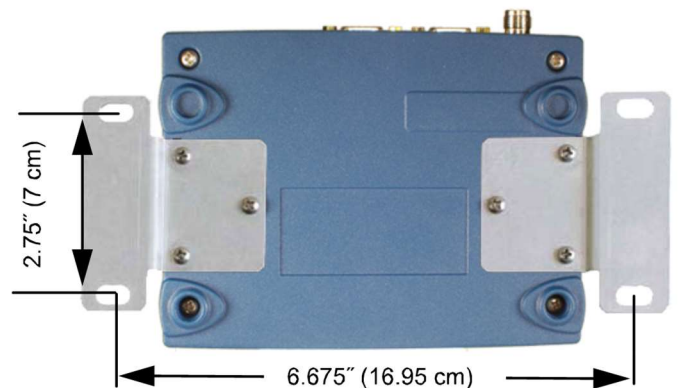

Figure 3. Mounting Bracket Dimensions
- Mount the transceiver.** Attach the supplied brackets to the bottom of the transceiver case (if not already attached), using the four 6-32 x 1/4 inch (6 mm) screws. Mounting bracket dimensions are shown in Figure 3. If DIN Rail mounting brackets are to be used, consult the *Technical Manual* for instructions.